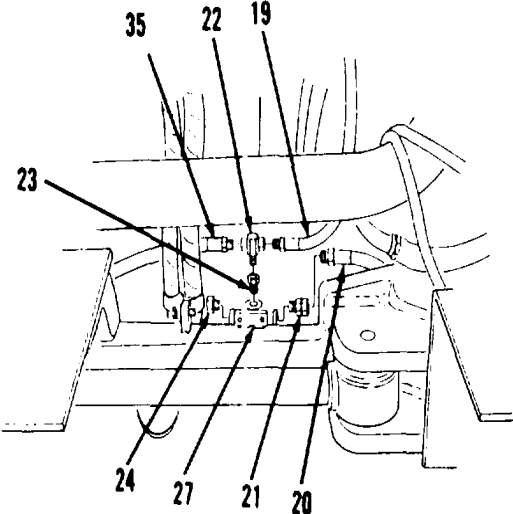
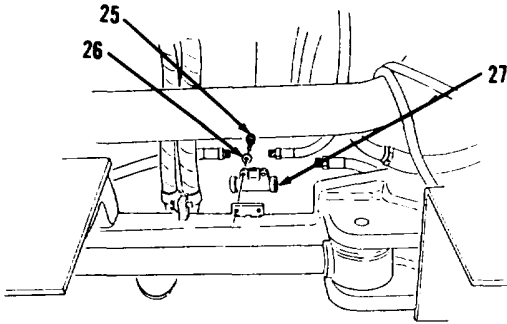

Figure 11-8.
Figure 11-9.
- 13. Disconnect air compressor hose assembly (19) from tee (22, Figure 11-8).
- 14. Remove hose assembly (20) and connector (21) from tee (27).
- 15. Disconnect hose assembly (35) from tee (22).
- 16. Remove tee (22), bushing (23) and plug (24) from tee (27).
- 17. Remove two bolts (25), washers (26) and tee (27, Figure 11-9).
5. Install tee (27), two washers (26) and bolts (25, Figure 11-9).